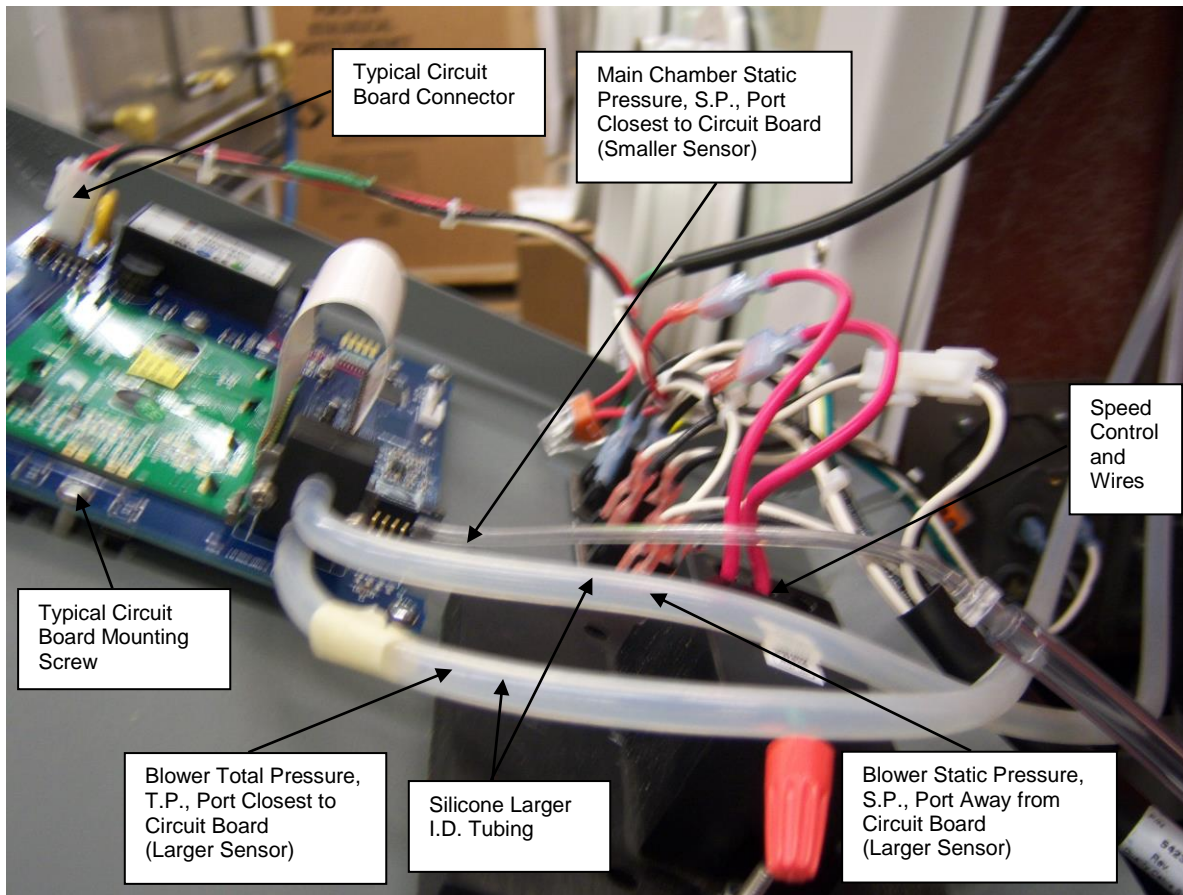

Figure 6-4
3. Disconnect all wires leading to the speed control as shown in Figure 6-4. Connect wires on new speed control in the same position as the old speed control.
1. Disconnect the power. Refer to Figure 6-4.
4. Replace all the tubing as shown in Figure 6-4.